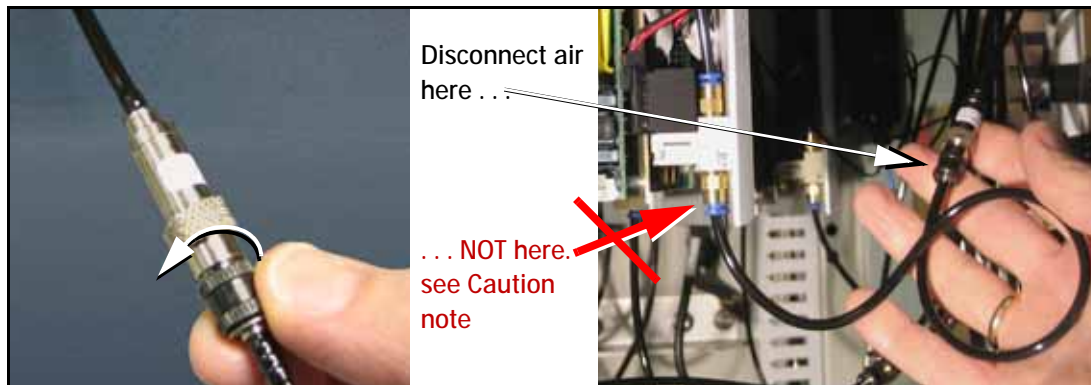

Figure 4-28: [PS588 only] Unscrew the black collar on the air fitting as shown.
**CAUTION:** *Pressurized air hazard. The main air line is connected and ON. If the wrong air fitting is disconnected, the tube will fly about until the main air valve at the back of the machine is switched off. For the correct programmer connector, see Figure 4-28.*
**WARNING:** *Pressurized air hazard. If your model does not have the inline, automatic shut-off union shown in Figure 4-28, then switch off (or disconnect) the main air supply at the Power Panel before disconnecting any air lines.*